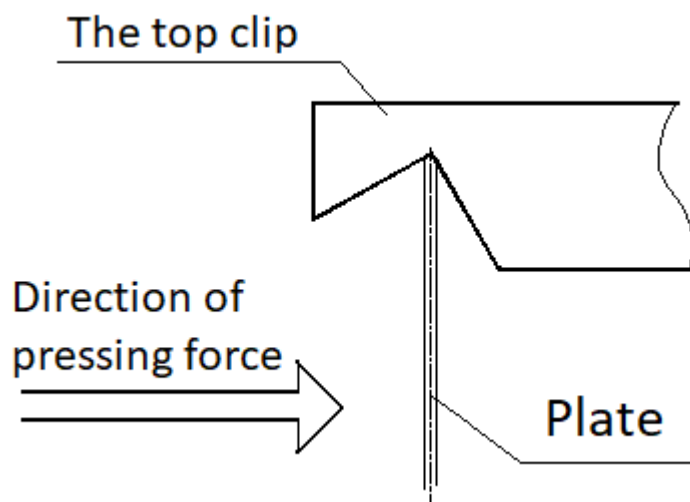

Figure 12 – Install the plate
- Install the plate in accordance with figures 12, 13.